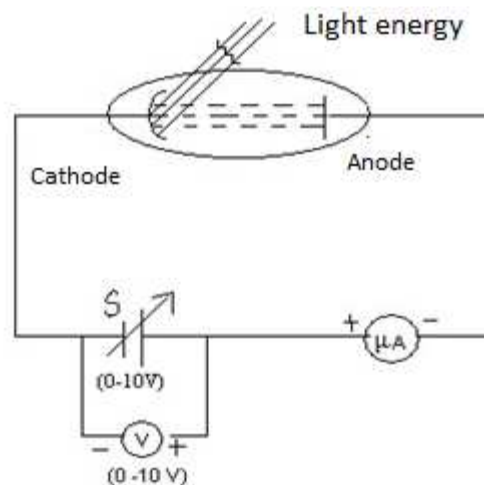

Figure 1: Circuit diagram of photoelectric cell for positive anode potential.
The apparatus is a circuit is presented in figure 1 & 2, which is a photocell. A battery is place between cathode and anode for providing voltage. Current is measured with the help of micro ammeter and voltage by voltmeter. A lamp is used to provide light which fall on surface of cathode.
46. Connect the circuit as shown in the figure 1.